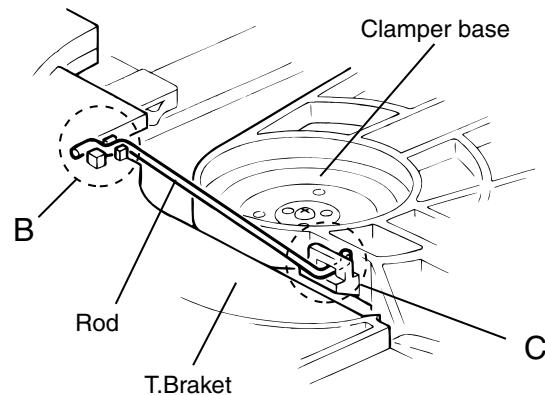

Fig.2
6. From the clamper base section "C" , remove both of the edges fixing the rod(See Fig.2 and 3).